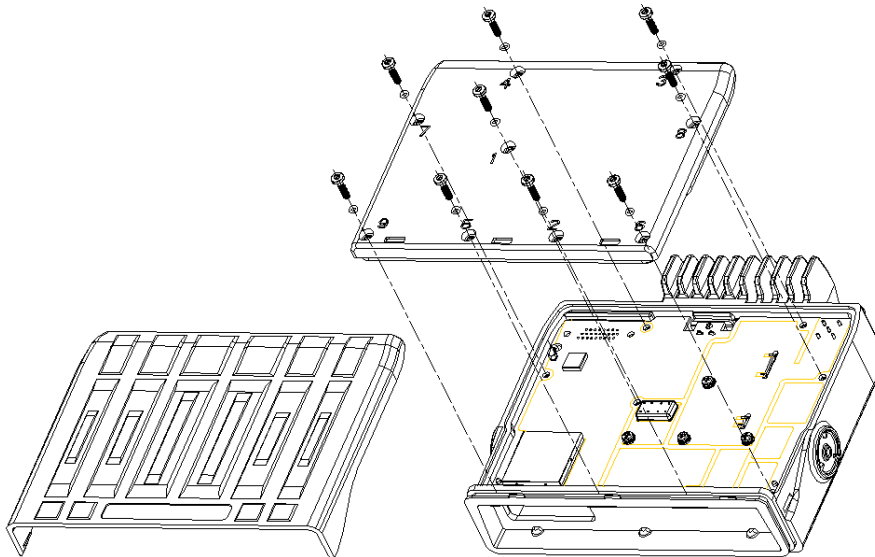

Figure 5.4
- (2) Open the plastic cover, unscrew 9 screws, and remove the aluminum chassis and O-ring as per figure 5.4.